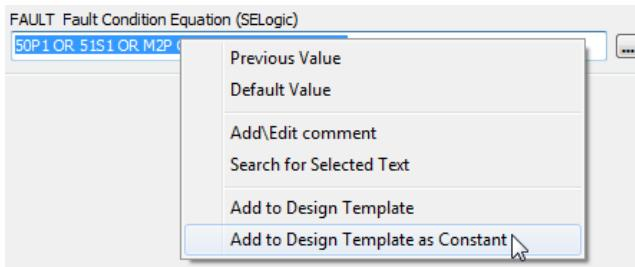

Figure 6.58 Certain Group Settings Are Added to the Design Template as Constants
Step 3. Go to **Global > General Global Settings** and set the first four settings as listed above (i.e., NUMBK = 2, NFREQ = 60). Once you have adjusted the settings, right-click each setting and select **Add to Design Template as Constant**, as shown in *Figure 6.58*.